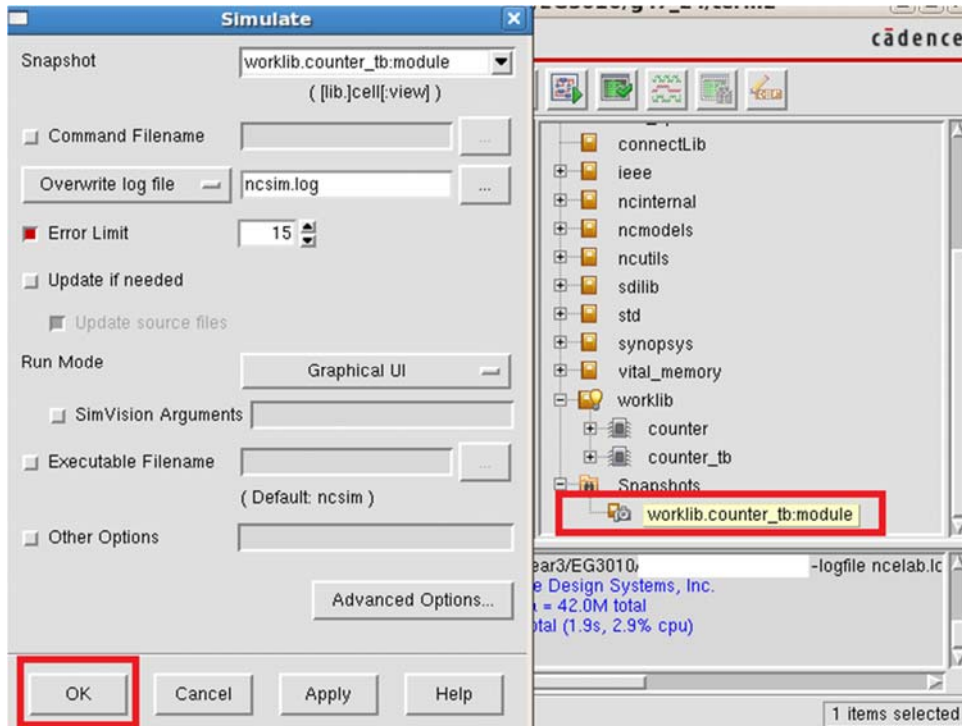

Figure Lab7-6 NCSim Window
7. Select **Snapshots/worklib.counter_tb:module** (as shown in Figure Lab7-6). **Right-click**→**NCSim**. Then click **OK**. This will allow you to setup the environment for simulation.